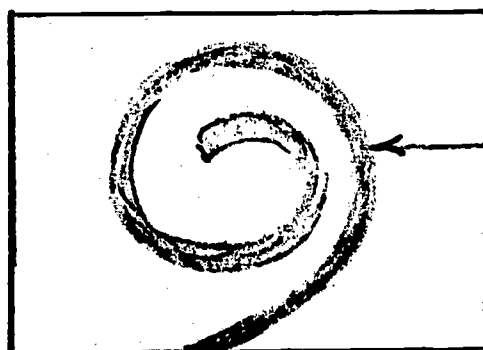

Fig. 3 Cut an inside curve using the hawks-bill snips. Stay inside of the scribed circle.
9. Take a piece of 4" x 4" sheet metal and draw a curve like the one in Fig. 3.
10. Select a pair of hawks-bill snip. Hold the metal in your left hand and the snips in your right. Begin cutting at the edge of the metal an inside curve. Be sure you stay inside of the scribed circle. See Fig. 3.